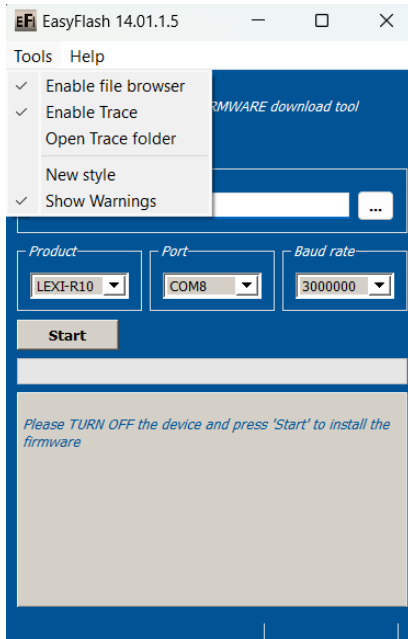

Figure 5: Setting up EasyFlash and starting the FW installation
5. "Enable trace" from main menu (see Figure 5) is ticked by default. This will create a log per flash attempt. It is useful if something goes wrong, and it is needed to report the issue.
6. Click "Start" button (see Figure 5).